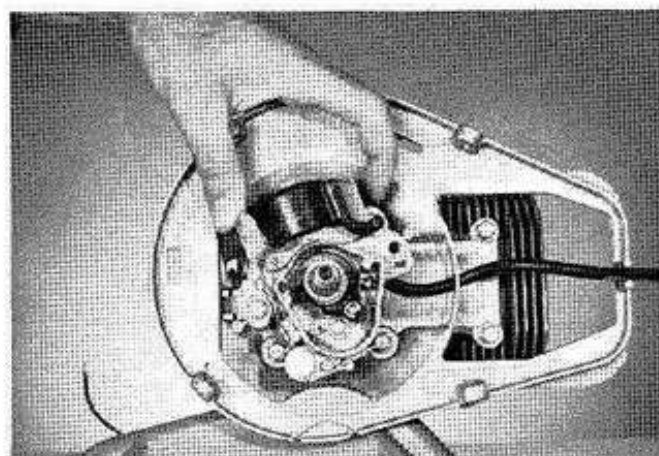

Figure 105. Ignition Timing.
- a. Position the high tension lead wire and the ignition short-out wire under the stator plate. (See Figure 105.)
- b. Install the key that holds the cam and flywheel in place. Rotate the crankshaft clockwise until the point breaker arm is on the highest spot on the cam. (See Figure 105.)
- c. Lightly loosen screw (A) but do not remove. A slight thread pressure on this screw will aid in holding the points in place while setting them to their proper clearance which is .020.